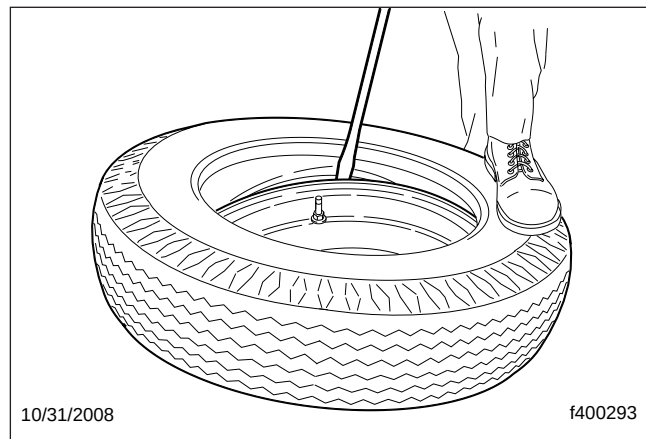

Fig. 5, Working the Lower Bead into the Wheel
- 3.3 Using the straight end of the tire tool, with the stop resting on the wheel flange, work small sections until the remaining bead slips into the wheel. See **Fig. 5**.